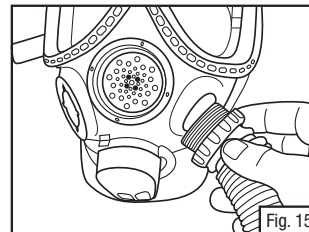

Fig. 15
2. Thread 40 mm Breathing Tube connection thread into 40 mm DIN port on facepiece (Fig. 15 and 16). Refer to FR-M40 *User Instruction* on how to move 40 mm DIN port to other side of mask.